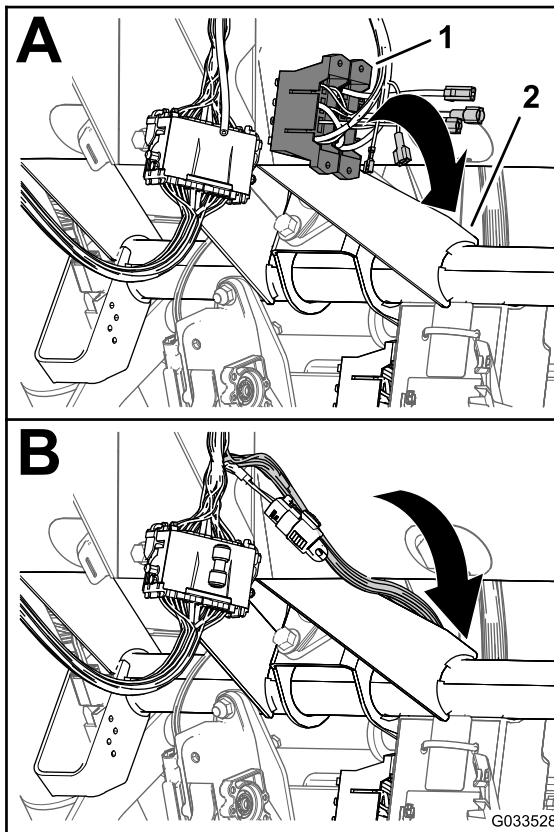

Figure 24
1. At the control console for the sprayer, route the branch of the front wire harness with the fuse blocks between the bottom of the dash panel and the cross tube of the machine chassis and down toward the forward side of the fuse block of the machine (Figure 24).